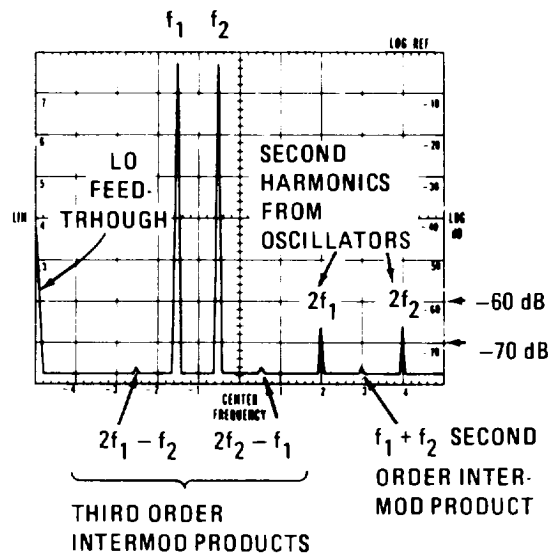

Figure 4-8. Intermodulation Distortion Products Display
10. Refer to Figure 4-8; the signals at 140 kHz ($2f_1$) and 180 kHz ($2f_2$) are oscillator second harmonics. Any second order intermodulation product (due to the analyzer) will occur at 160 kHz ($f_1 + f_2$). Any third order intermodulation products will occur at 50 kHz ($2f_1 - f_2$) and at 110 kHz ($2f_2 - f_1$). The intermodulation products should all be below -70 dB graticule line: